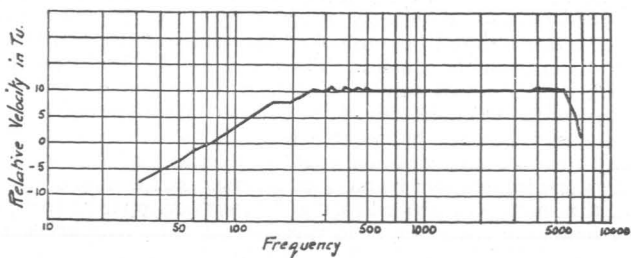

FIG. 32.—Typical Frequency Characteristic of a commercial recorder.
The microphone used in modern recording practice is a relatively insensitive device—a defect that is offset by its faithful response characteristics. An amplifier has therefore to be interposed between the microphone and the electro-magnetically controlled cutting tool. This amplifier is designed to cut off the bass, in accord with a recording policy already described (1), so as to give an over-all response characteristic as shown in Figure 32 which has the authority of the Bell Telephone Laboratories (2) where much of the recent development work has been carried out.
2. *Bass Cut-off* is described as being intentionally introduced in accord with a definite recording policy. Very low sounds, having a frequency below 30 cycles per second, are completely excluded. From 250 cycles to 30 cycles the cut-off declines as shown in Figure 32. This is because to record them in their correct proportion requires a wider groove-spacing than is economically permissible, owing to the reduction in playing-time that it would involve.